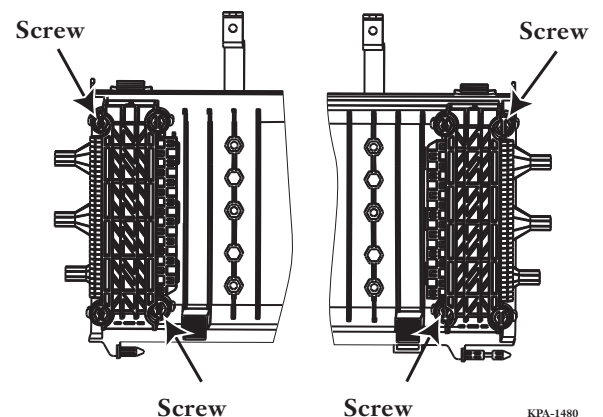

Figure 11 — Open Express End Cap
Step 2: Open the express cable portion of the end caps by loosening the two screws indicated on each end (Figure 11).